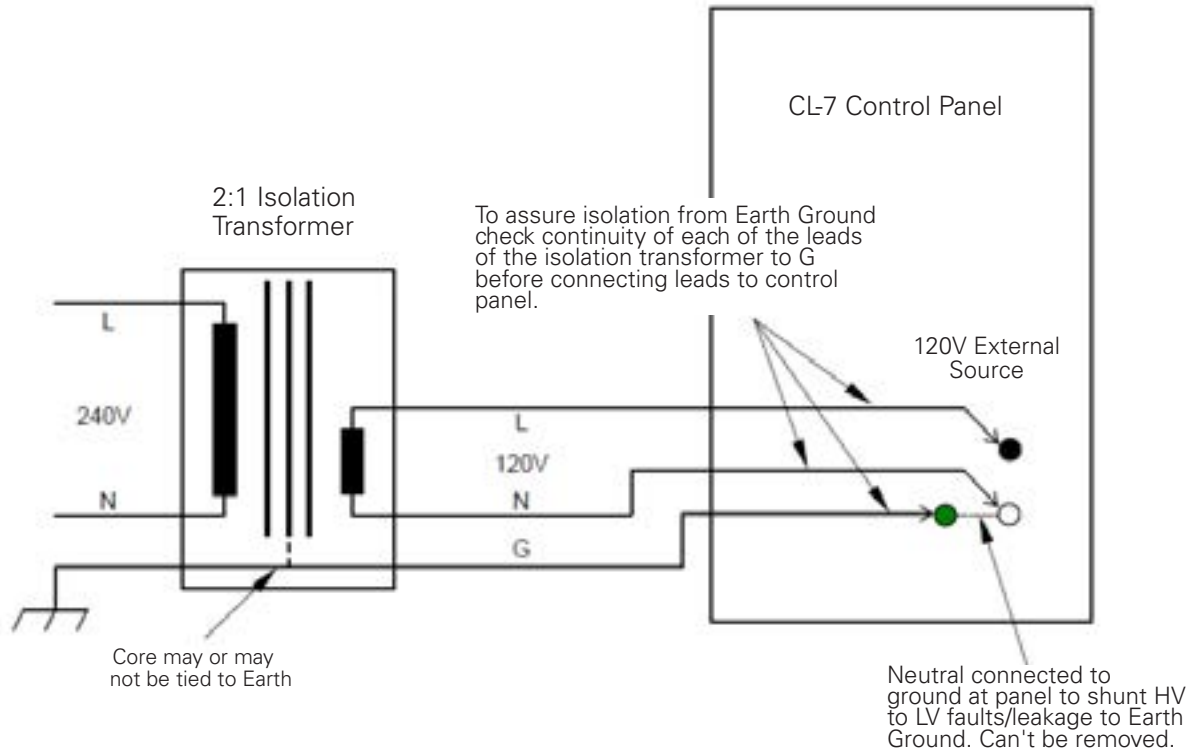

Figure 1-5. 240 Vac Application with Eaton's Cooper Power series 120 V Control - Option 2.
Since the control is configured for 120 Vac, a 2:1 isolation transformer must be used to step and isolate the supply voltage. This isolation transformer must isolate both the neutral and line on the secondary side. Also, the neutral and ground on the secondary side should not be bonded or connected. To check isolation from earth ground, check the continuity of each lead on the isolation transformer with respect to ground (G). Check this before connecting the leads to the control panel. See Figure 1-5.